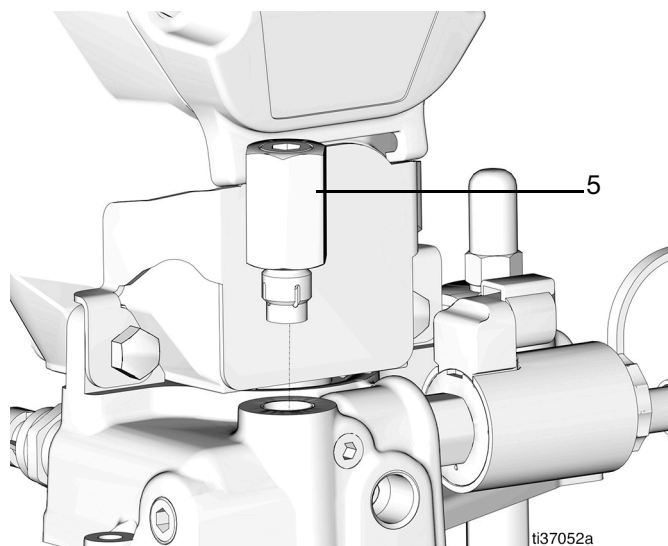

FIG. 31
- Remove the pressure relief valve cartridge (5) (FIG. 31).